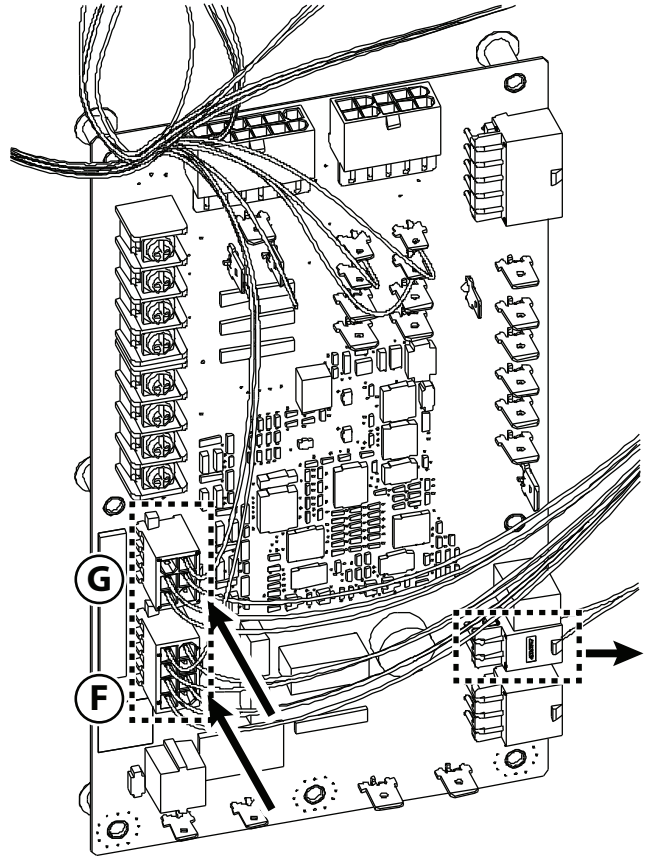

Fig. 6 — DDC and DDC TSTAT Connection, IFM Disconnection
1. Connect main harness connectors labeled LCTB DDC and LCTB DDC T-STAT to the CTB at the DDC and DDC T-STAT. Disconnect IFM. (See Fig. 6.)